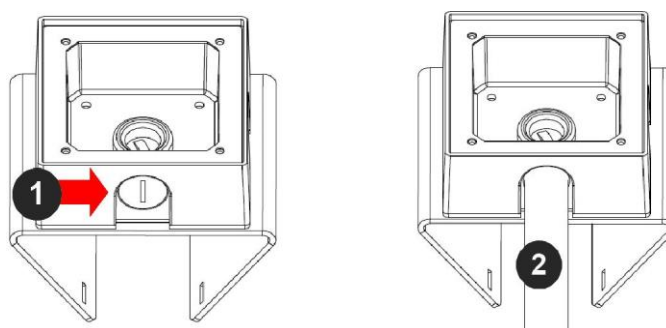

Figure 1: Attach conduit to AV-JBA junction box adapter
3. Attach the Junction Box Adapter to the Pole Mount Adapter as shown in Figure 1.
4. Remove the conduit plug on the junction box adapter and connect $\frac{3}{4}$ " NPT conduit to the junction box adapter (Figure 1).